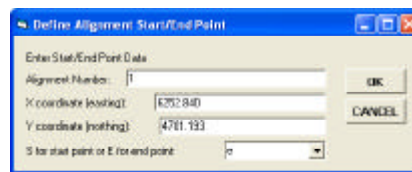

Figure 7
4. Select the *E* option from the choice list at the bottom of the dialog box shown in Figure 7, and then click at the:
Again only the last parameter in Figure 7 needs to be responded to. Selecting the *E* option denotes that the user has selected the location of the horizontal alignment's end point.